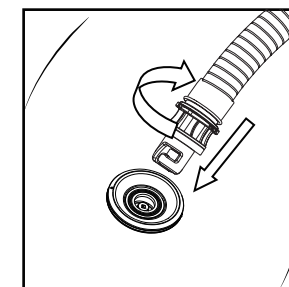

Figure 2
- Install the other end of the hose into the supporting air tap of the air bag (step ① in Figure 2), and twist clockwise to tighten it, and then insert the inflation valve of the air bag and twist clockwise to fix it (step ② in Figure 2).